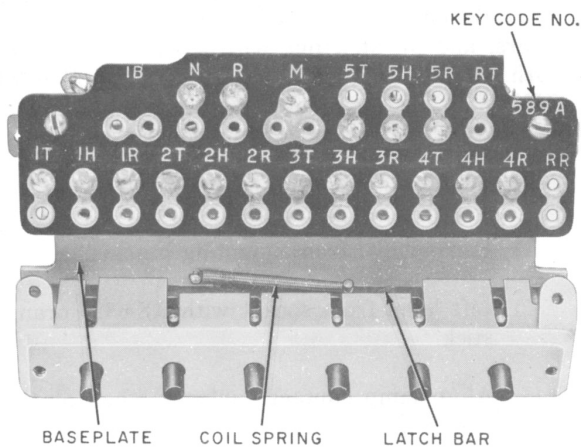

Fig. 2—589-Type Key, Top View
**2.09** Maintenance of the 589-Type Key (Fig. 2 and 3) consist of: